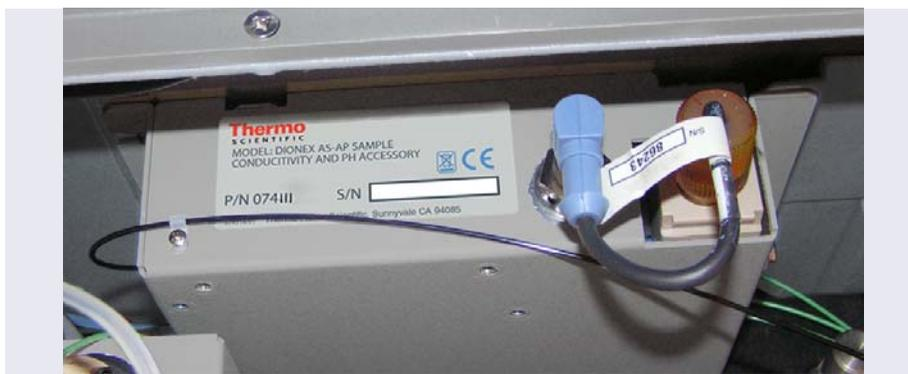

Figure 11. Accessory with pH Electrode Installed
7. Hold the electrode at an upward slant (the cable end should be at a 15 degree angle up from horizontal) and screw the pH electrode into the port. Plug in the electrode cable (see Figure 11).